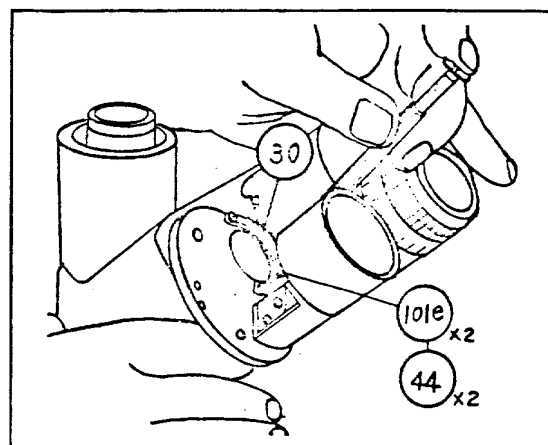

Fig. 8
- 6) Removing the screws (101e)  $\times 2$  and notched washer (44), take off the interpupillary distance gear (30) (Fig. 8).